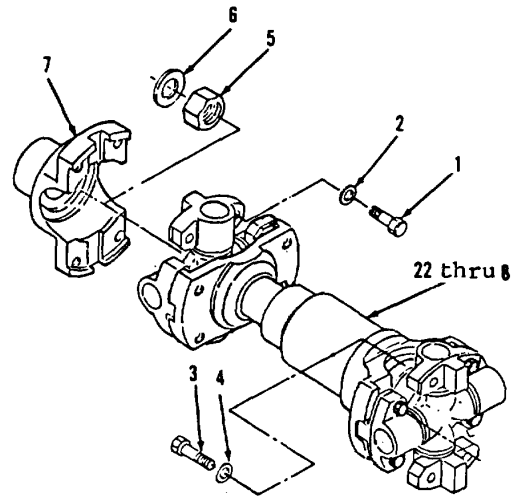

Figure 10-1.
1. Apply anti-seize compound to pump shaft before installing nut (5, Figure 10-1).
2. Install yoke (7), washer (6) and nut (5). Tighten nut (5) to 125 to 145 ft-lb.
3. Install items 22 thru 8 as an assembly, four washers (4) and bolts (3). Tighten four bolts (3) to 35 to 45 ft-lb.
4. Install four washers (2) and bolts (1). Tighten four bolts (1) to 35 to 45 ft-lb.